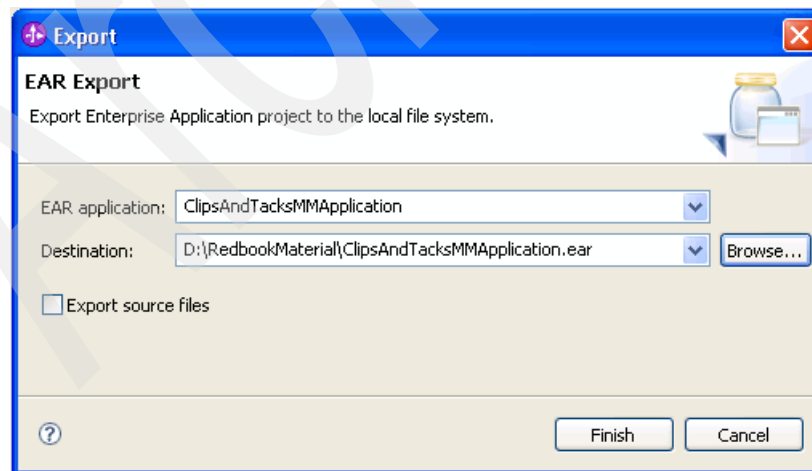

Figure 5-81 Exporting the EAR file
7. In the Export window (Figure 5-81), for Destination, click **Browse**. Select a destination for the EAR file and click **Save**. Click **Finish** to export the EAR file.